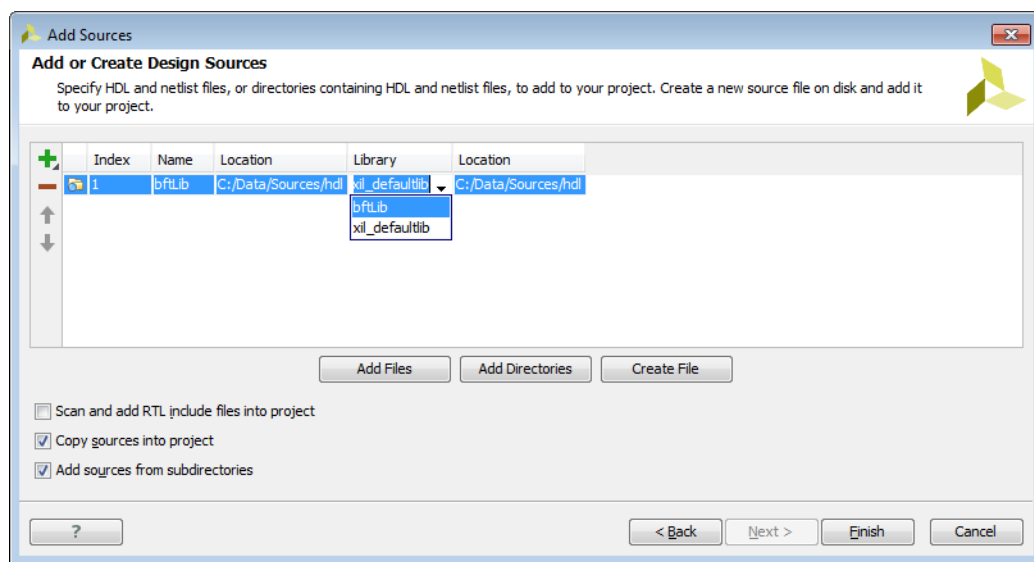

Figure 3-4: Add Sources Wizard—Add or Create Design Sources Page
5. In the Add or Create Design Sources page (Figure 3-4), specify the appropriate Library for the source file.